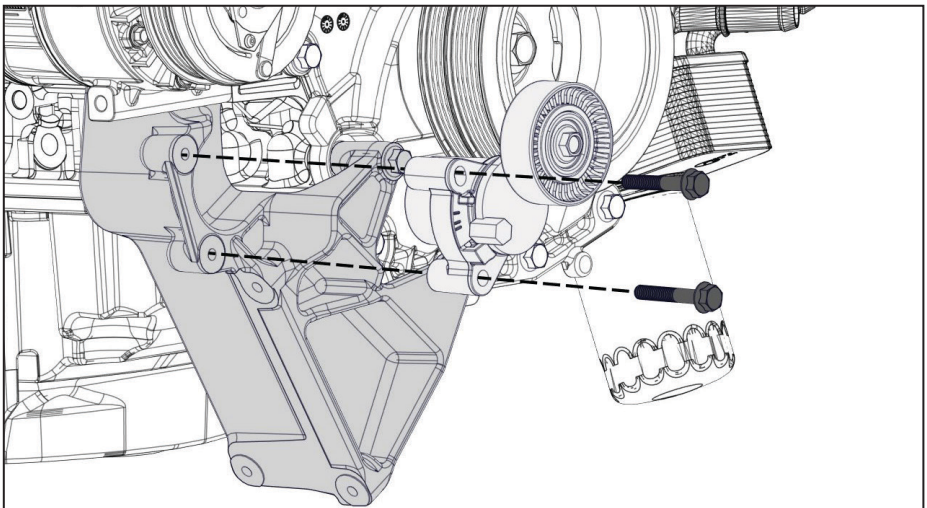

Figure 14 — Install tensioner
- Using (x2) M8 × 1.25 × 50 mm bolts, install the 4 rib belt tensioner onto the VMAC main bracket (Figure 14).